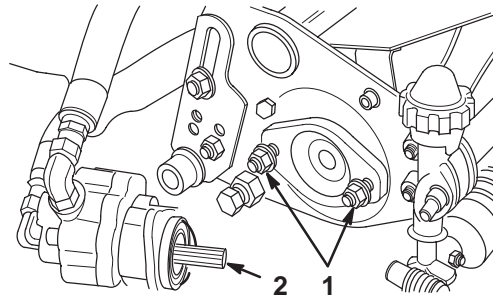

Figure 8
2. Assemble the mount nuts for the reel drive motor to each cutting unit. Leave approximately 1/2 in. (13 mm) of threads exposed on each mount stud (Fig. 8).
4. Remove the protective covers from the cutting units and the reel drive motor shafts. Coat the spline shaft of the motor with clean grease and install the motor by rotating the motor clockwise so the motor flanges clear the studs. Rotate the motor counterclockwise until the flanges are encircling the studs and tighten the mounting nuts (Fig. 8).